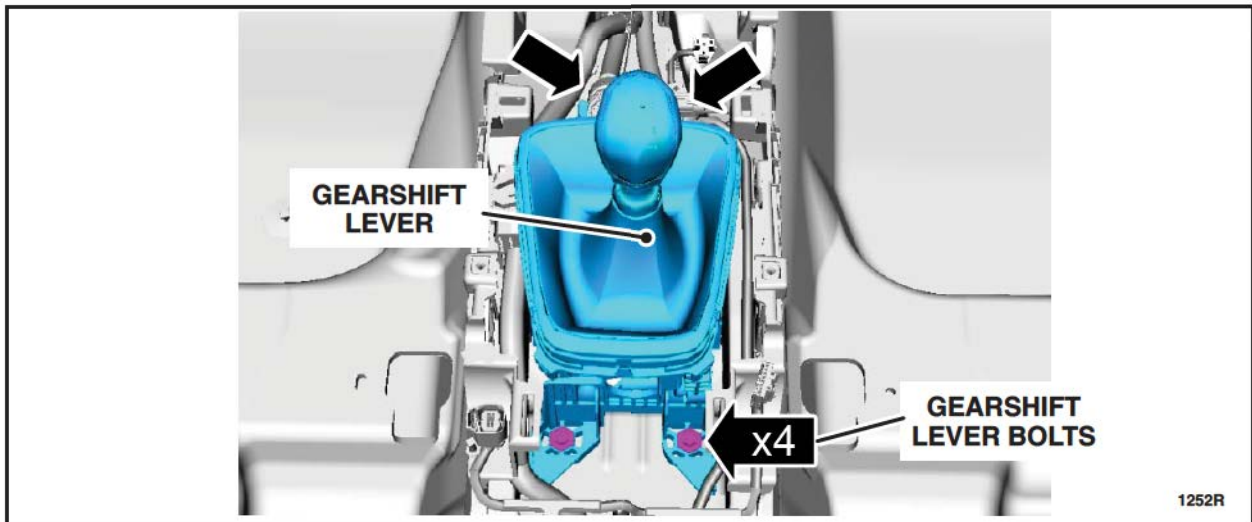

FIGURE 13
21. Remove the four bolts and the gearshift lever. See Figure 13.
11. Install the gearshift lever and tighten the four bolts. See Figure 13.